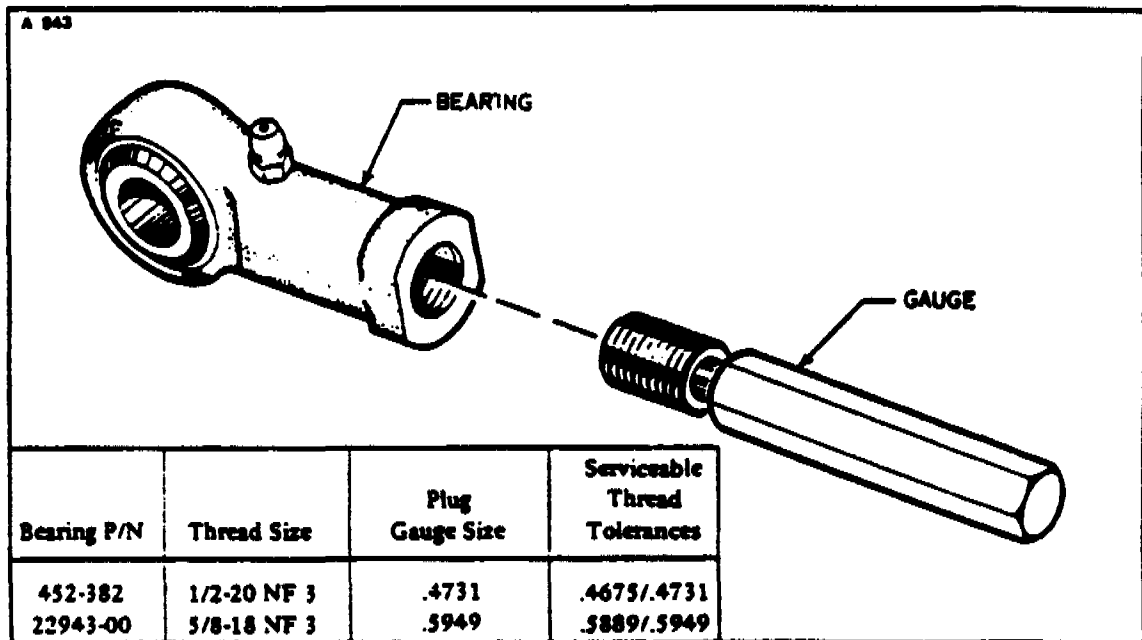

FIGURE 6-8b. MAIN GEAR SIDE BRACE BEARING TOLERANCE
1. This check requires the use of a NO-GO thread plug gauge (refer to table included in Figure 6-8b for the specific size gauge to use. This gauge can be purchased from any good tool supplier.
2. If the NO-GO gauge can be screwed into the bearing, this would indicate that the bearing is worn larger than the tolerances given in the table with Figure 6-8b, and must be replaced.